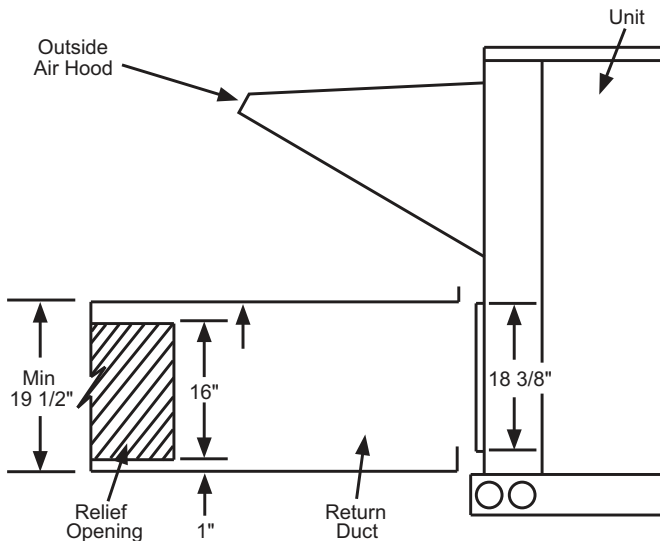

Fig. 28 — Relief Damper
1. Install the field provided horizontal ductwork onto the unit. Duct height must be at least 19-1/2 in. high, however the duct can be no taller than the top of the relief opening in the bottom panel, or airflow into the outside air hood will be restricted. See Fig. 28.
2. Cut a 16 in. x 36 in. opening in the return duct for the relief damper (see Fig. 28).